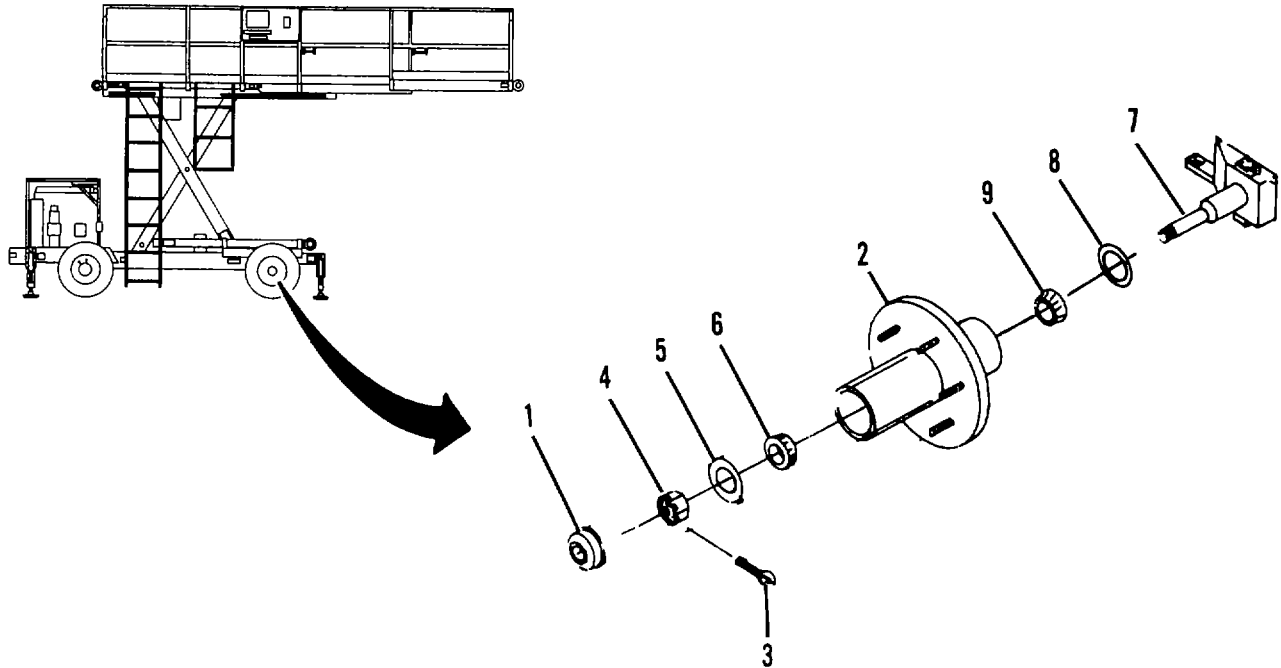

Figure 3-43. Steering Wheel Hubs and Bearings (Sheet 1 of 2).
- (1) Remove dust cap (1, Figure 3-43) from hub (2).
- (2) Remove cotter pin (3) from spindle nut (4).
- (3) Remove spindle nut (4) washer (5) and bearing (6) from spindle (7).
- (4) Remove hub (2) from spindle (7).